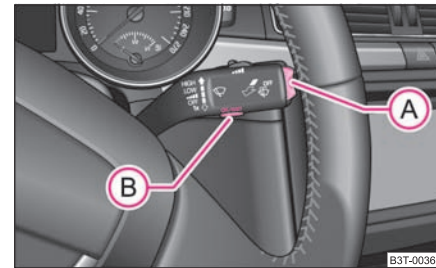
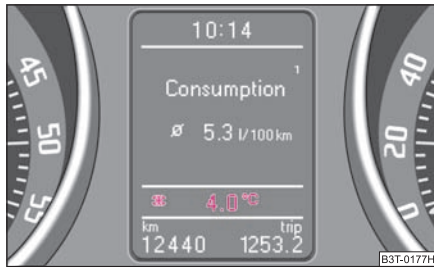

Fig. 6 Multi-functional indicator: Control elements
Fig. 8 The outside temperature
Switching over the memory with the help of the button **(B)** ⇒ fig. 6 on the wind-screen wiper lever or with the help of the button **(D)** on the multifunction steering wheel* ⇒ page 16.
The rocker switch **(A)** and the button **(B)** are located in the grip of the window wiper lever ⇒ fig. 6.
If the outside temperature drops below +4 °C, a snowflake symbol (warning signal for ice on the road) appears before the temperature indicator ⇒ fig. 8 and a warning signal sounds. After pressing the rocker switch (A) at the windshield wiper lever ⇒ page 15, fig. 6 or the button (C) at the multifunction steering wheel ⇒ page 16, fig. 7, the function shown last is indicated.
The driving time which has elapsed since the memory was last erased, appears in the display. If you wish to measure the driving time as of a particular time, you must set the memory to zero at this moment in time by pressing the button (B) on the windshield wiper lever ⇒ page 15, fig. 6 or the handwheel (D) on the multifunction steering wheel* ⇒ page 16, fig. 7 for longer than 1 second.
If you wish to determine the average fuel consumption over a certain period of time you must set the memory to zero at the start of the measurement using the button (B) on the windshield wiper lever ⇒ page 15, fig. 6 or with the handwheel (D) on the multifunction steering wheel* ⇒ page 16, fig. 7. A zero appears in the display for the first 100 m you drive after erasing the memory.
The distance driven since the memory was last erased appears in the display ⇒ page 15. If you wish to measure the distance driven of a particular time, you must set the memory to zero at this moment in time by pressing the button **(B)** on the windshield wiper lever ⇒ page 15, fig. 6 or the handwheel **(D)** on the multifunction steering wheel* ⇒ page 16, fig. 7.
The average speed since the memory was last erased is shown in the display in km/hour ⇒ page 15. If you wish to determine the average vehicle speed over a certain period of time you must set the memory to zero at the start of the measurement using the button **(B)** on the windshield wiper lever ⇒ page 15, fig. 6 or with the handwheel **(D)** on the multifunction steering wheel* ⇒ page 16, fig. 7.